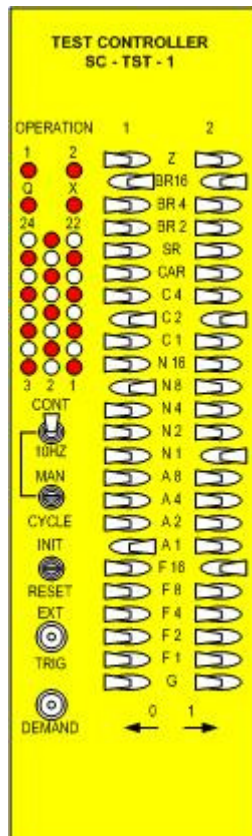

Figure 21 RGO32bit counter test Controller setup
- A=1 F=0 (switch A1 set as in Figure 21)